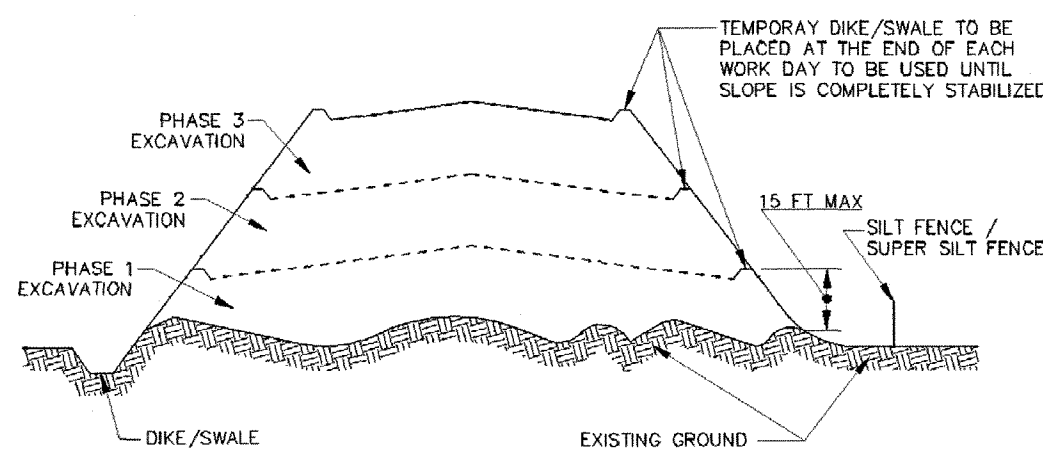

Figure B.2: Incremental Stabilization - Fill
4. Construction sequence example (Refer to Figure B.2):